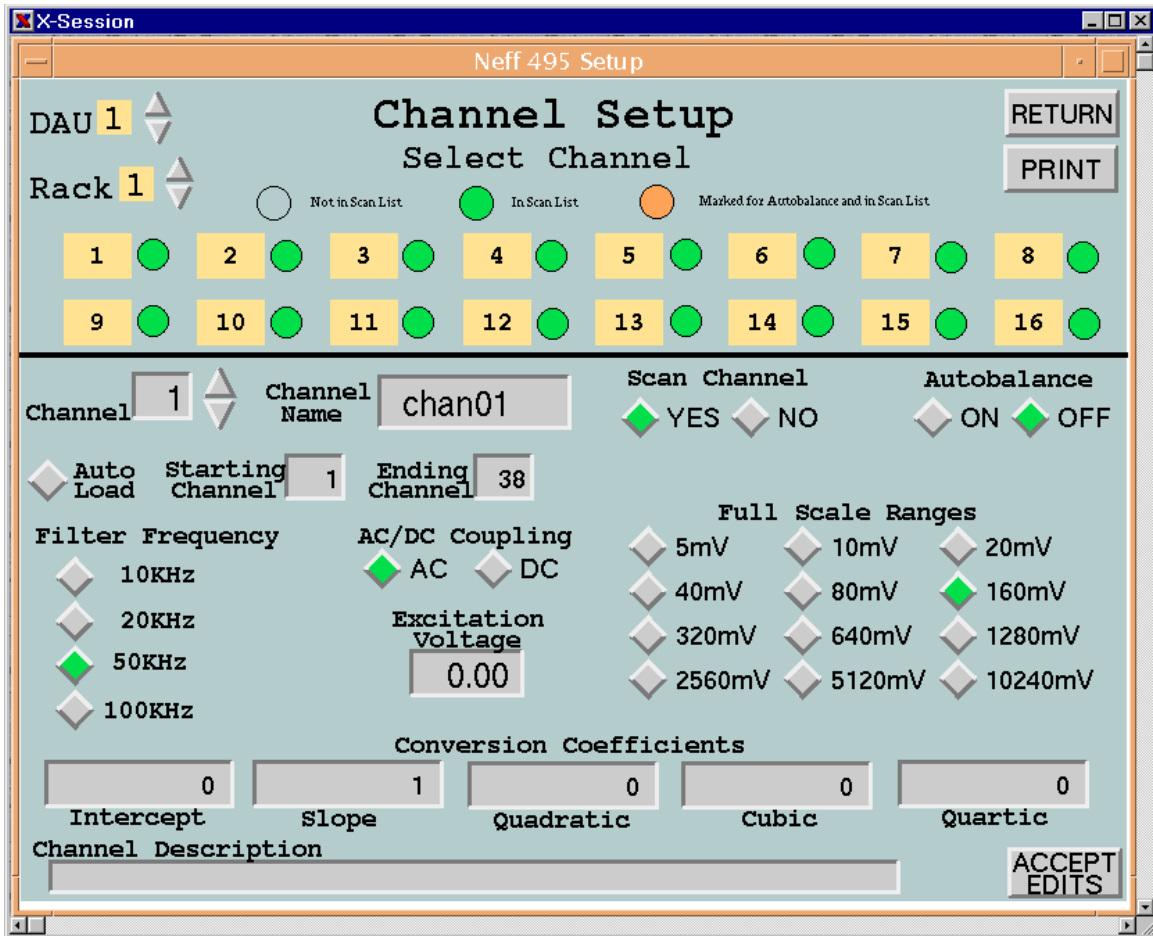

Figure 6.4.1-1. Channel Setup Menu Screen
**Channel Setup** - Clicking on this push button pops up the *Channel Setup Menu* screen (Figure 6.4.1-1). See Section 6.4.1 for a detailed description of this screen.
The *Channel Setup Menu* screen (Figure 6.4.1-1) pops up after selecting the **Channel Setup** option on the *Neff 495 Setup* screen. From this screen, the user may display and/or modify parameters required to configure Neff 495 channels. Modifications made to channel parameters are not applied until the **ACCEPT EDIT** button is clicked. This screen also provides an auto load function that allows the user to prototype one channel and updates a range of channels with the same information. The **ACCEPT EDIT** is not required for Auto Load.